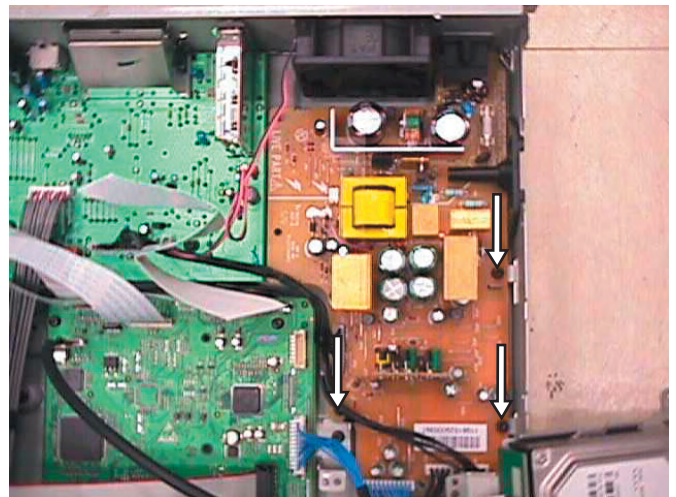

Figure 4-9: PSU remove screw
- 1) Remove 3 mounting screw on PSU Board as shown in figure 4-9.